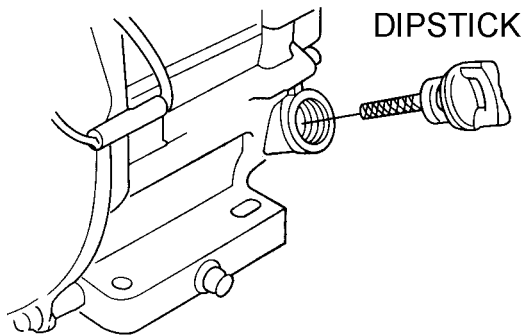

Figure 14. Engine Oil Dipstick Removal
- Remove the dipstick from the engine oil filler hole (Figure 14) and wipe clean.